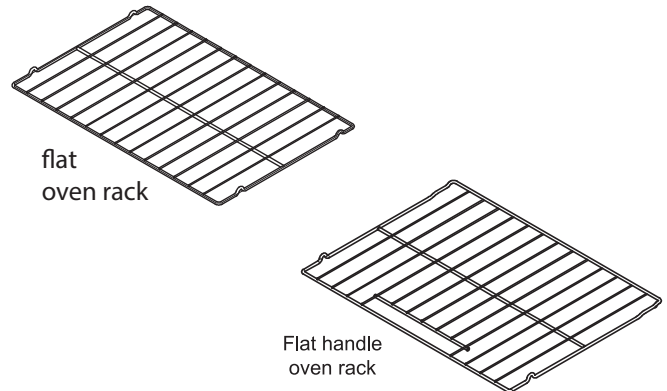

Figure 7: Oven rack types
2. Push in and turn the surface control knob clockwise to begin heating both the inner and outer elements. If only the inner element is needed for smaller cookware, push in and turn the knob counter-clockwise (see Figure 7).